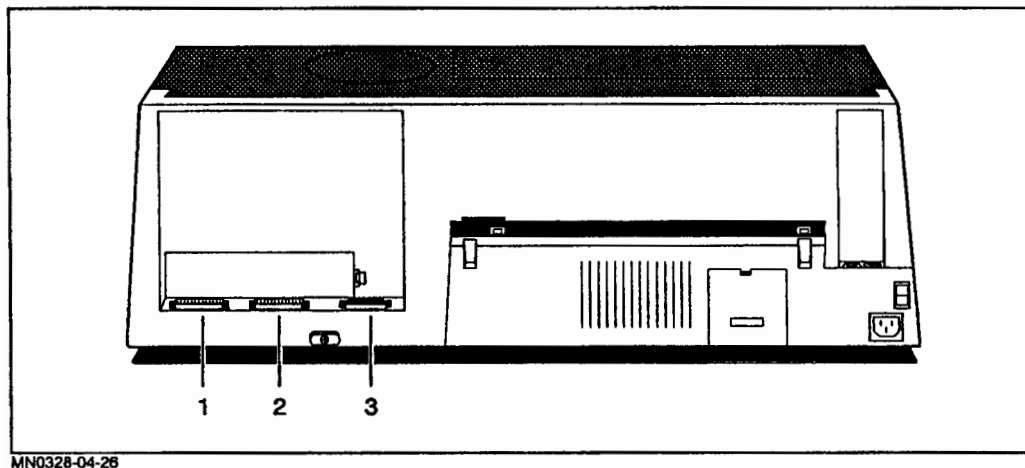

Figure 4-13. HP 7550B HP-IB Connector
- ① Cable to the interface or previous device.
- ② Cable to the plotter.
- ③ Thumb screws to be tightened.
- c. Connect the other end of the HP-IB to the plotter. Figure 4-13 illustrates the location of the HP-IB connector at ③.